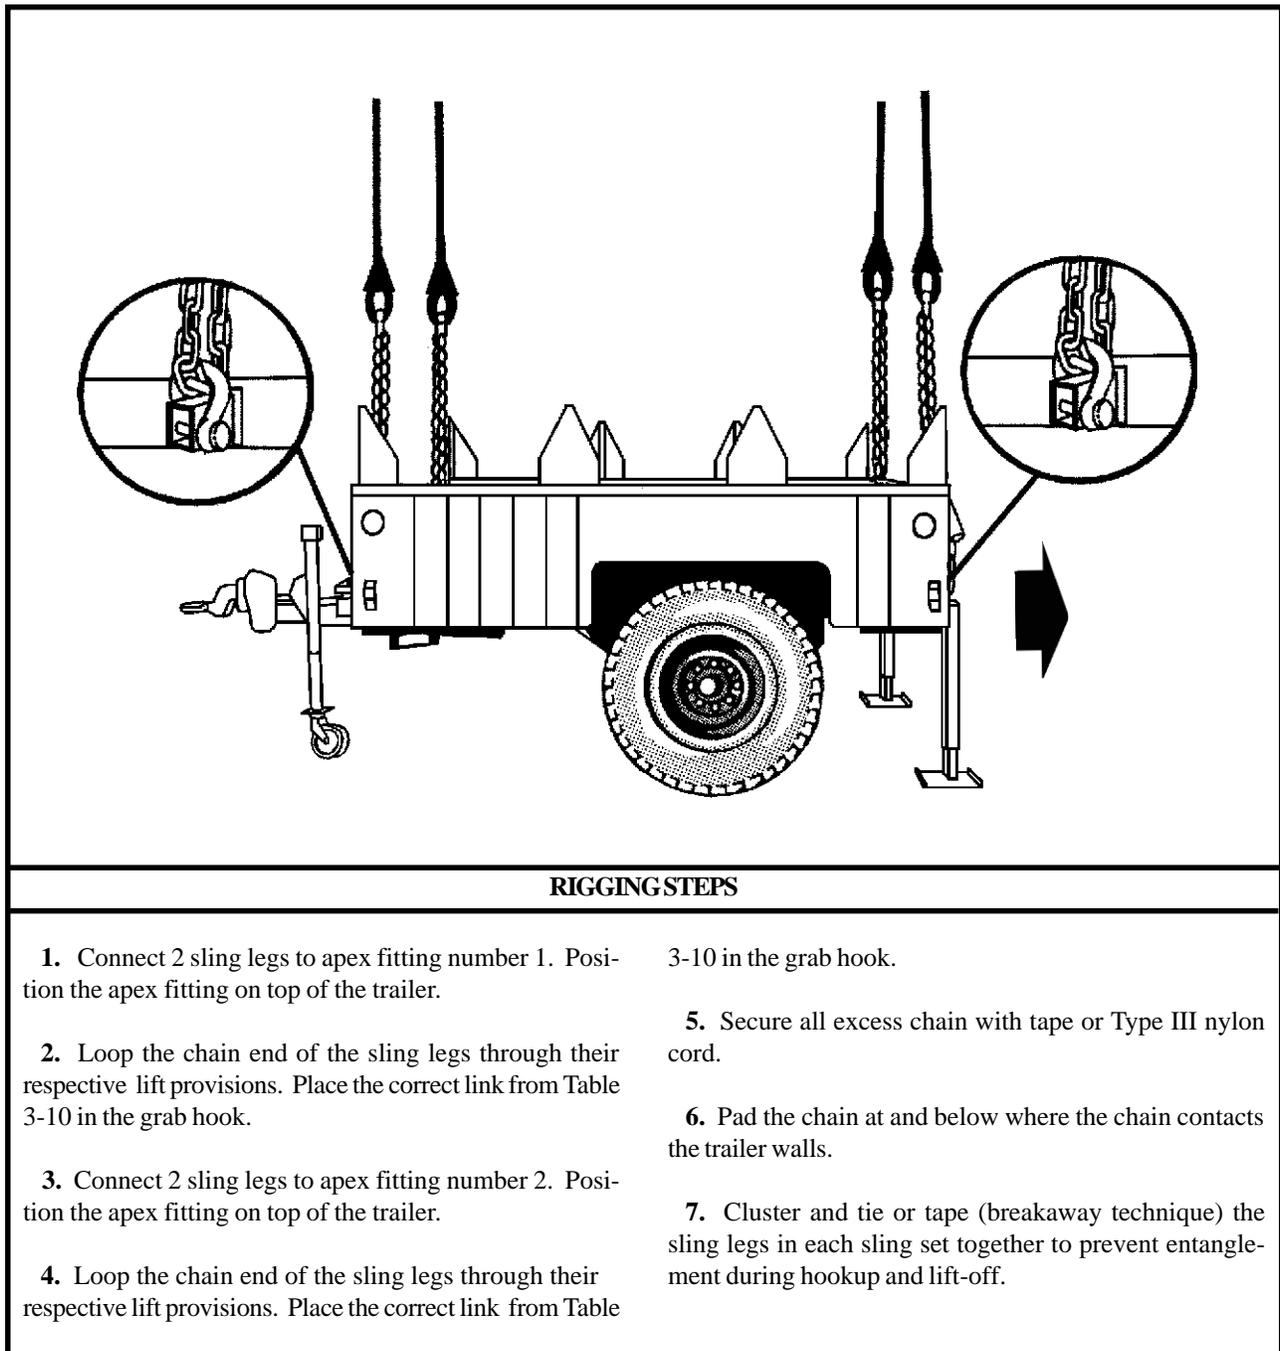

Figure 3-10. High Mobility Trailers
(2) Rigging. Rig the load according to the steps in Figure 3-10.
(3) Hookup. The hookup teams stand in the bed of the trailer and on the drawbar. The static wand person discharges the static electricity with the static wand. The forward hookup person places apex fitting 1 onto the forward cargo hook. The aft hookup person places apex fitting 2 onto the aft cargo hook. The hookup team then carefully dismounts the vehicle and remains close to the load as the helicopter removes slack from the sling legs. When successful hookup is assured, the hookup team quickly exits the area underneath the helicopter to the designated rendezvous point.
(4) Derigging. Derigging is the reverse of the preparation and rigging procedures in steps d (1) and d (2).